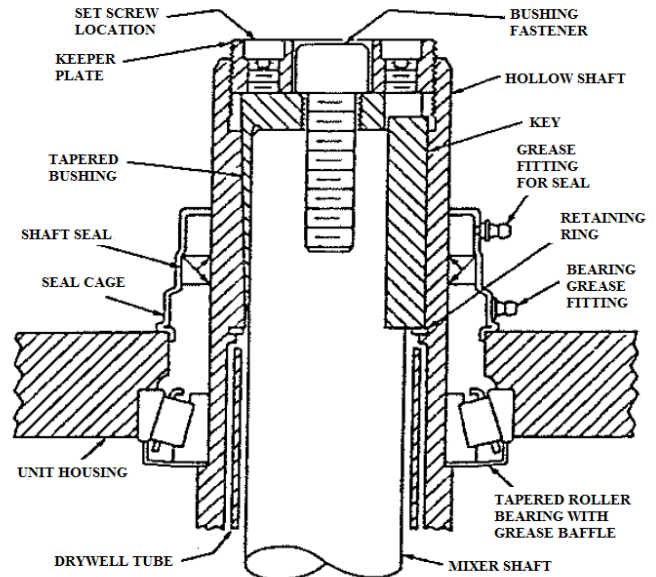

Figure 6.
10. Refer to figure 6. Rotate the mixer shaft to line up the keyways. Insert the key in the keyway from the top and tap it into place against the internal retaining ring in the hollow shaft.
11. Refer to figure 6. Slide the tapered bushing over the top of the mixer shaft. Install the bushing fastener and tighten to the torque shown in table 2 on the next page
NOTE: Refer to figure 6. A spanner wrench may be place on the exposed high speed shaft to prevent the low speed shaft from rotating while the bushing is tightened.